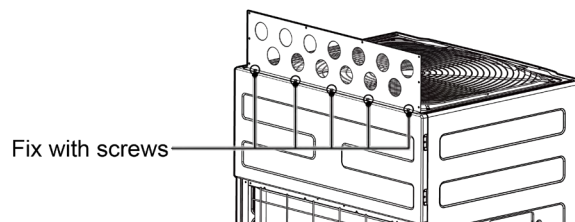

Fig. 3.4
(2) Fix the Top Plate 3 with 5 screws, as is shown in Fig 3.4.